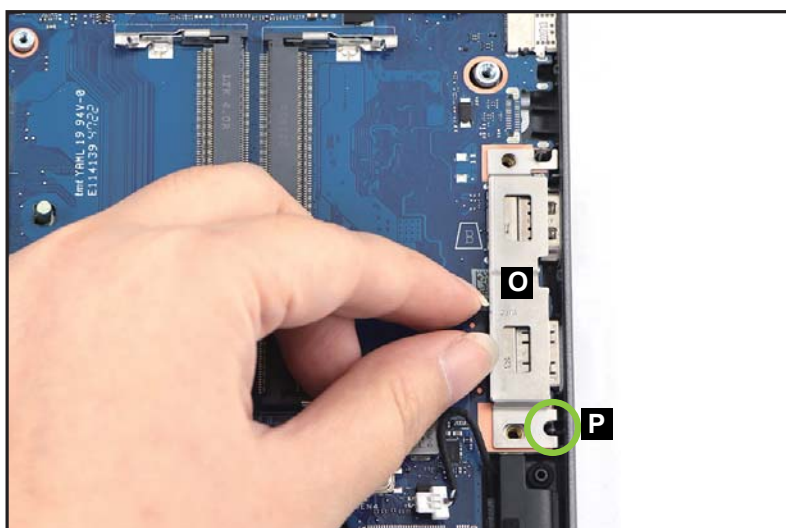

Figure 1-39. Mainboard Removal
13. Lift the right IO bracket (O) to release it from the guide pin (P) (Figure 1-39). Then remove the bracket.